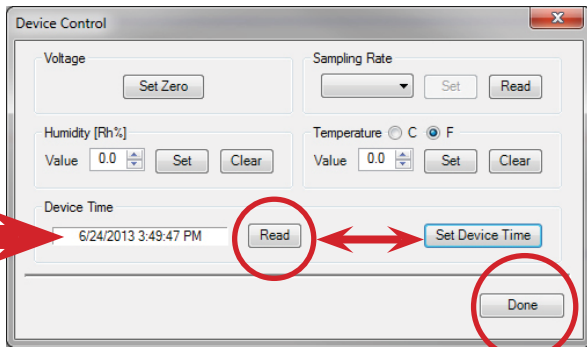

Figure 19: Use Edit drop down Menu to Access Device Control Window for setting Set PGA-710B Date & Time
2. Select Device Control and a Device Control window (Figure 19) appears on the screen.